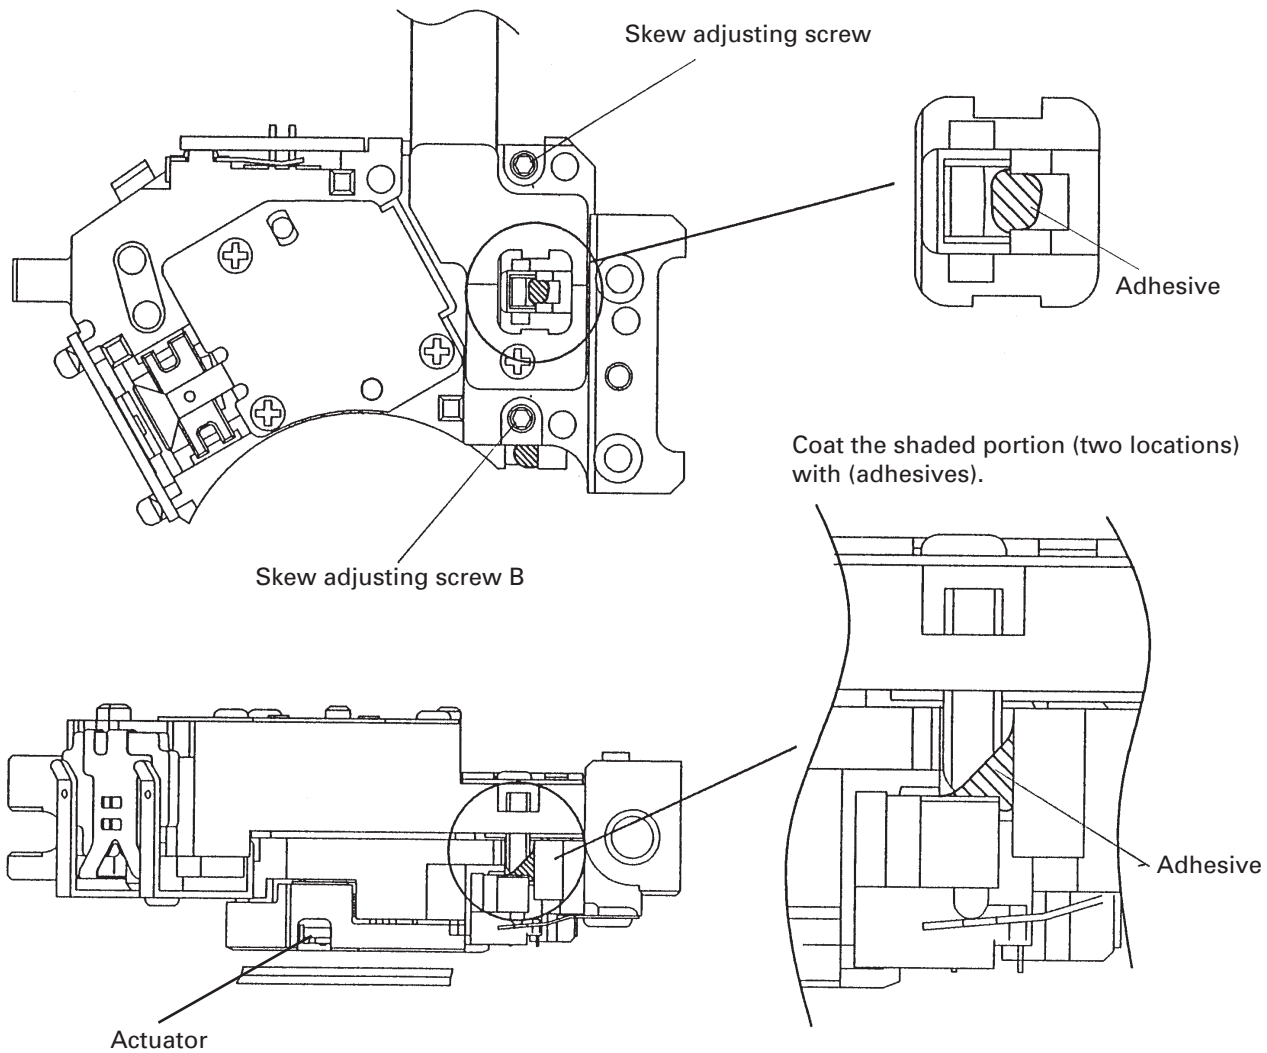

Fig.1
### ● Procedures (Fig.1)
- 8) Mix agents A and B of adhesive 601 at a ratio of 1 to 1 and coat a specified part with both agents of the adhesive. The adhesive is cured about 15 minutes. The coating position is shown in Fig.1.